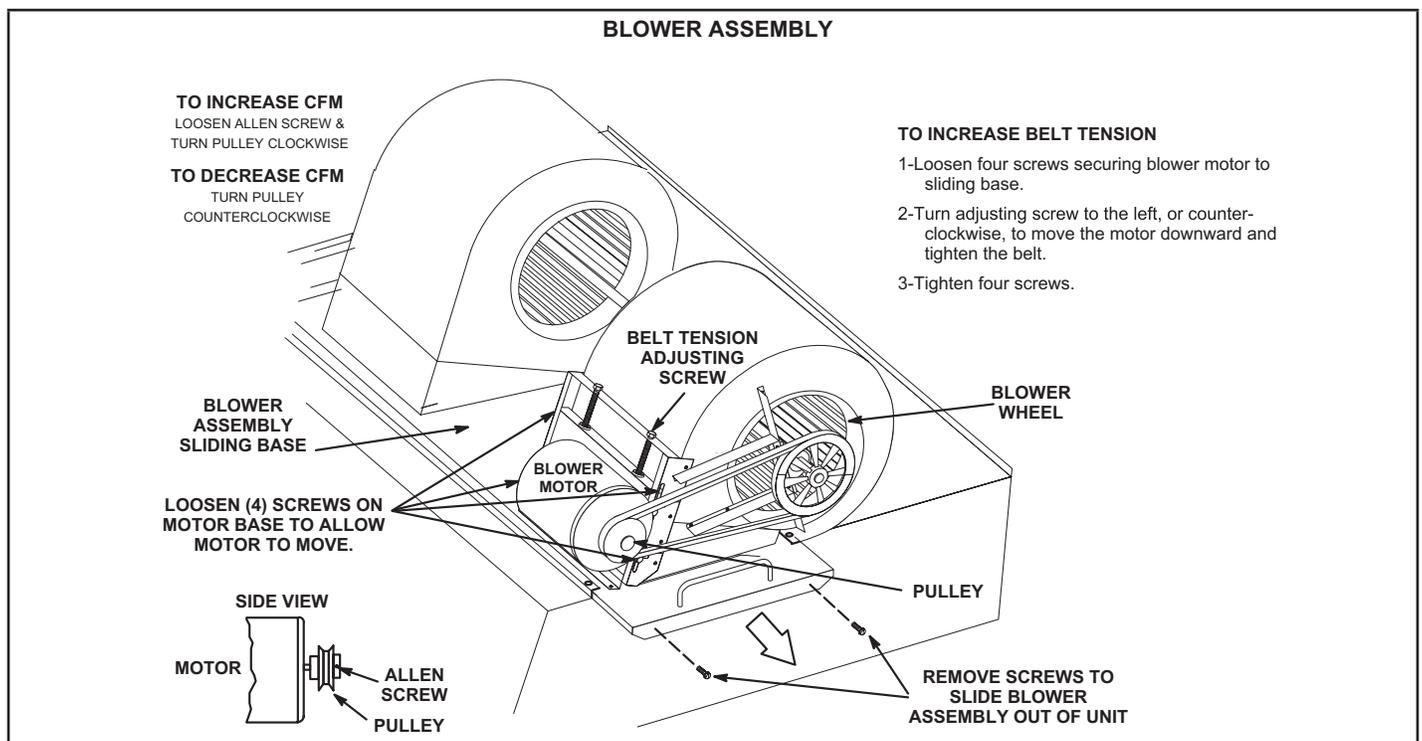

FIGURE 9
The blower compartment in KGC180S-300S units is located between the evaporator coil and the compressor / control section on the opposite side of the condenser coil. The blower assembly is accessed by removing the screws on either side of the sliding base. The base pulls out as shown in FIGURE 9.
The blower assembly is secured to a sliding base which allows the entire assembly to be pulled out of the unit. See FIGURE 9.
- 5 - The RPM can be adjusted at the motor pulley. Loosen Allen screw and turn adjustable pulley clockwise to increase RPM. Turn counterclockwise to decrease RPM. See FIGURE 9.
- 1 - Loosen four bolts securing motor base to mounting frame. See FIGURE 9.